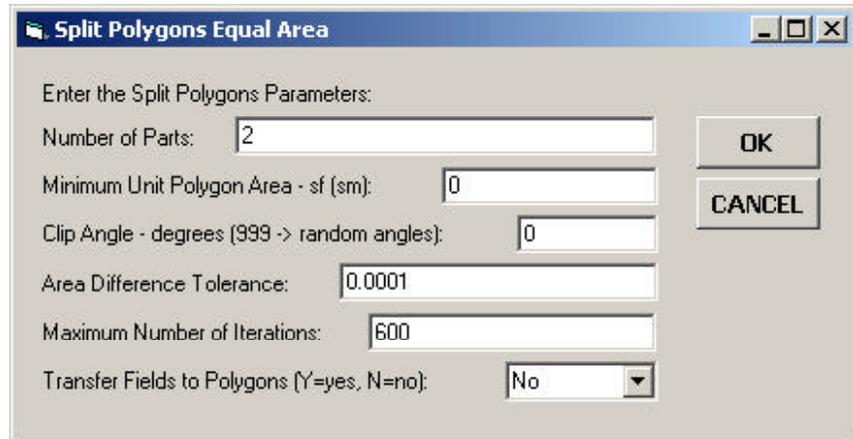

Figure 5
- 5 Scroll down in the {CEDRA-Polygon-Tools} menu combo box, and **select** the [Split Polygons Equal Area] menu command. If an appropriate layer is not selected, one of the warning messages shown in Figures 2, 3 and 4 will be displayed. If a polygon layer is selected, the multi-input dialog box of Figure 5 will be displayed. Additionally, the command will display in the status bar area, the number of features that will be processed, see Figure 6.
If the Yes button is selected, the dialog box of Figure 5 reappears with the values from the previous run being the new default values.